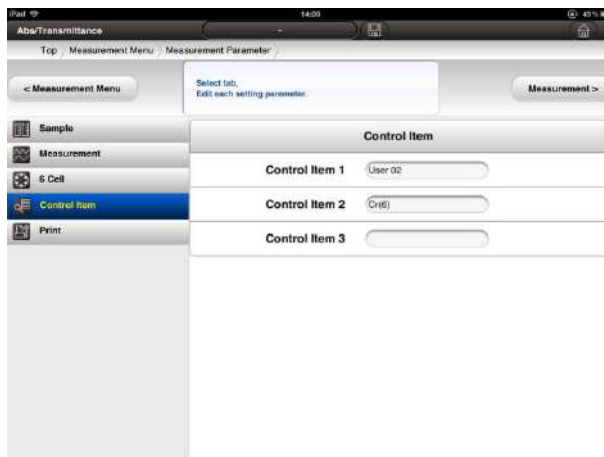

Fig. 4-34 Control Item Window
- (1) Press  [control item tab] to set control items.
- (2) The control item window window (Fig. 4-34) will then be shown.